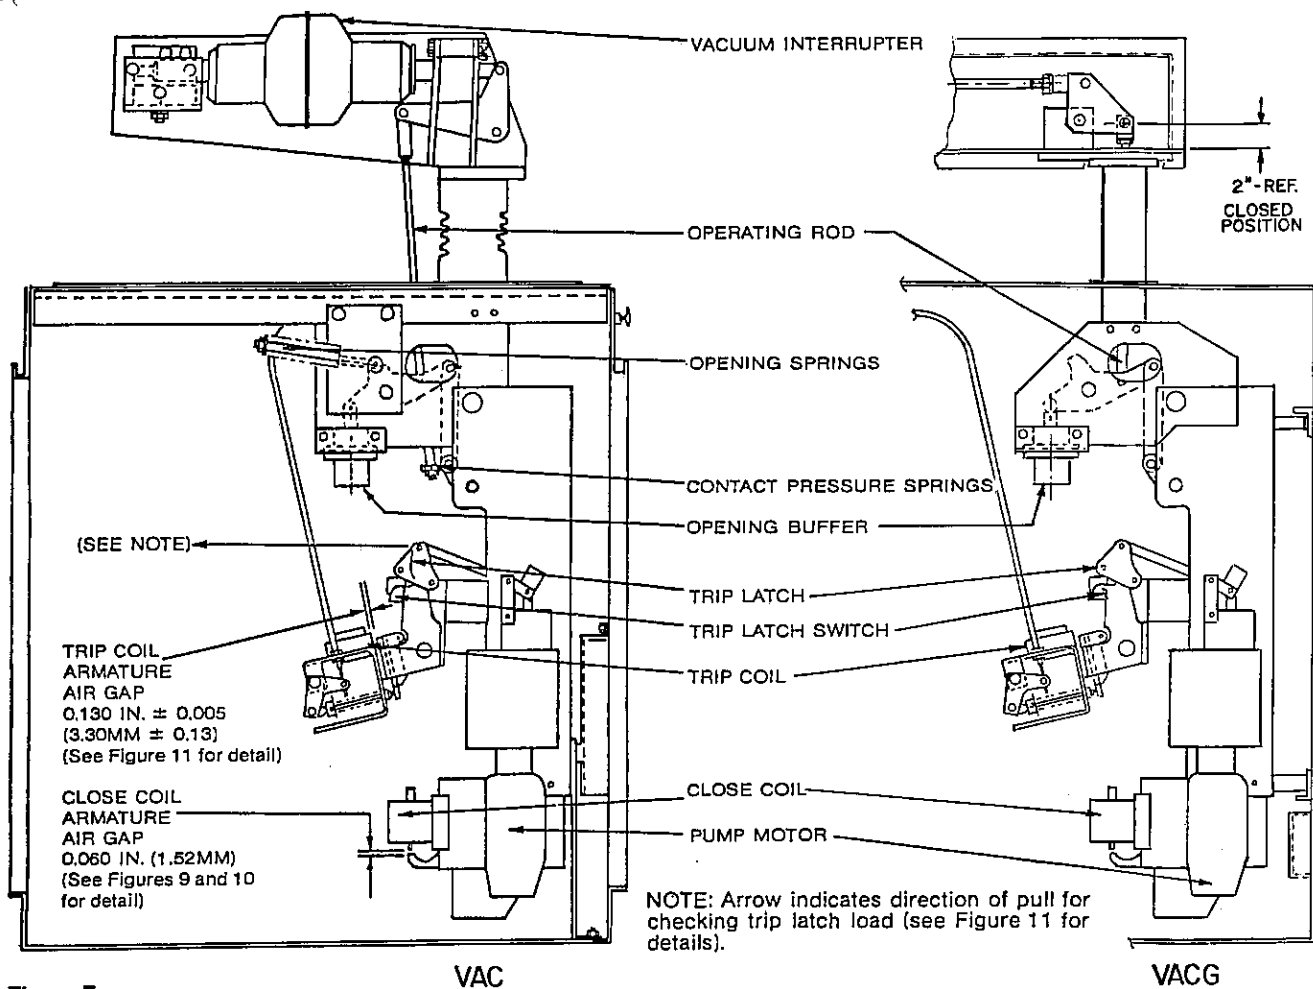

Figure 7.
2. With the closing spring discharged and the trip latch set, measure the trip latch armature air gap (Figure 7).
See Figure 7 for close coil location reference and Figure 10 for detail.
2. As demonstrated in Figures 7 and 11, hook a metal strap or wire around the trip pin, bring it out the rear of the mechanism compartment, and attach a spring scale which will measure from 10 to 100 lb (45 to 450 newtons).
1. The trip coil armature air gap should be 0.130 in. \pm 0.005 (Figure 7).
1. If the trip linkage does not set, adjust for $\frac{1}{32}$ to $\frac{1}{16}$ in. (0.79 to 1.58 mm) clearance between the drive block and belleville washer by adjusting the opening buffer (Figure 7).
1. Check to see that plunger on trip latch switch clicks when trip linkage is set on trip latch (Figure 7).